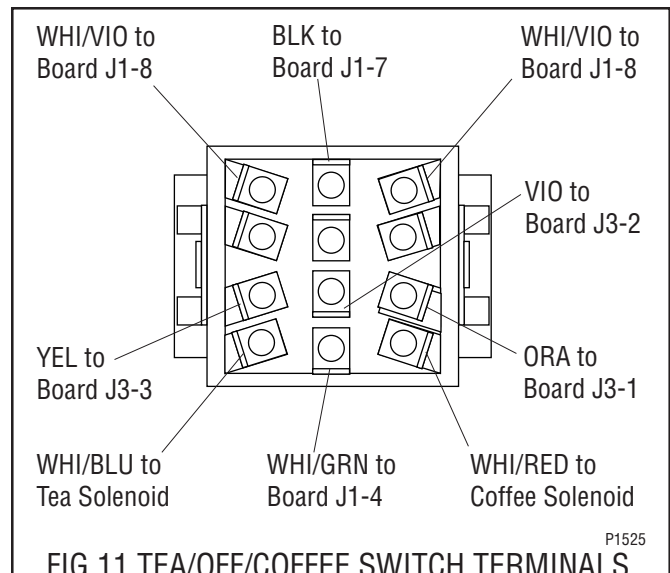

FIG. 11 TEA/OFF/COFFEE SWITCH TERMINALS
4. Refer to FIG. 11 when reconnecting the wires.